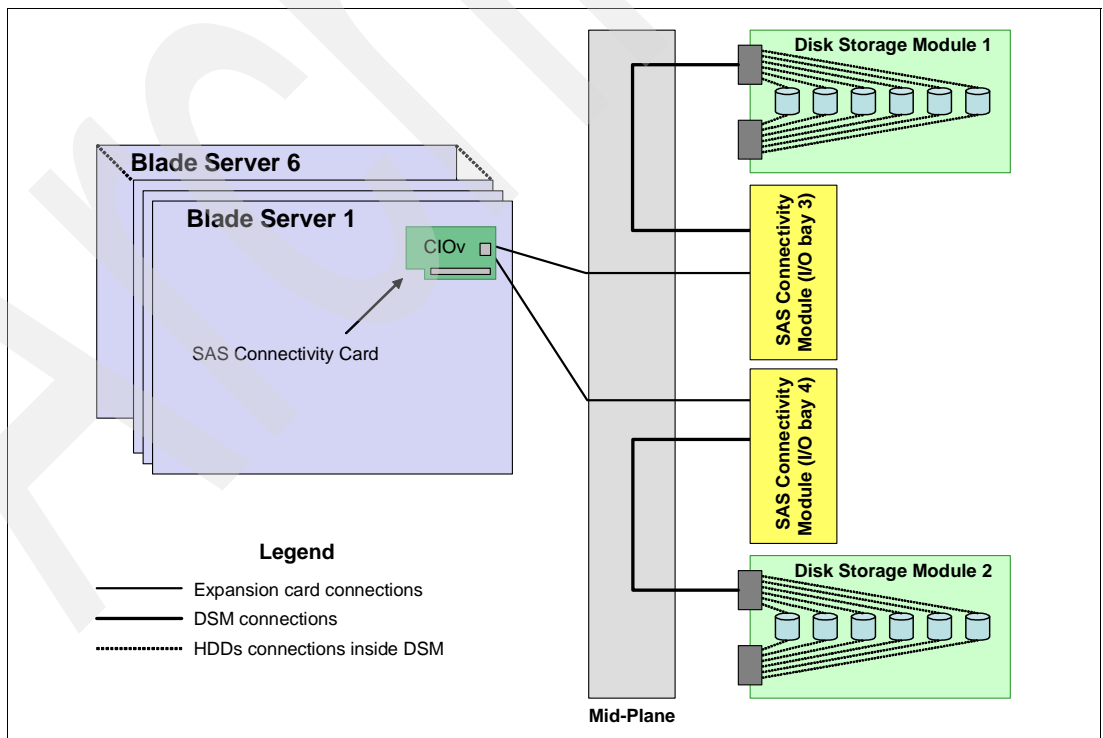

Figure 2-30 SAS I/O connections with two SAS Connectivity Modules installed
Figure 2-30 shows a sample connection topology for basic local storage with two SAS Connectivity Modules installed.
- ▶ When creating a RAID-1 array, we recommend that you span both disk storage modules. This maximizes the availability of data if one of the paths to the disks is lost, because there is only one connection to each disk storage module, as shown in Figure 2-30 on page 75.